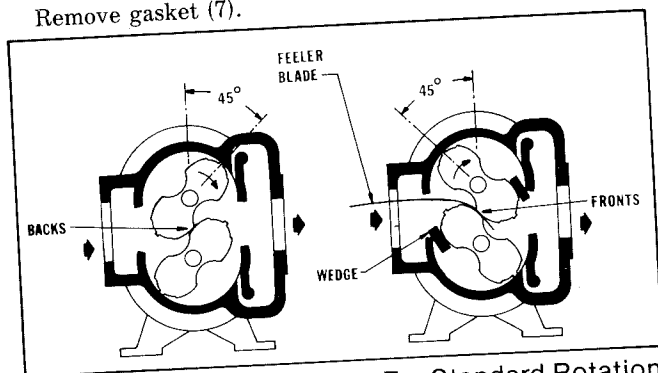
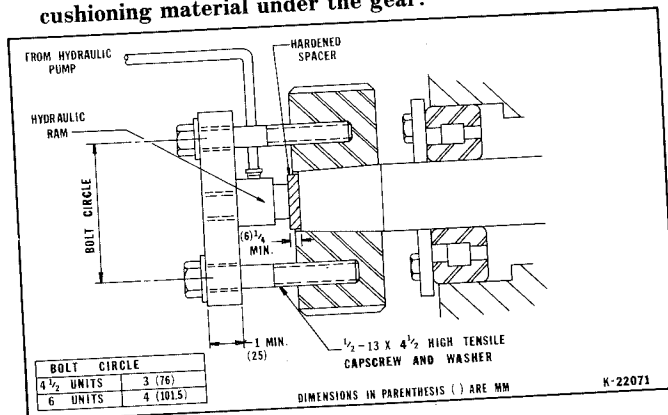

Figure 4 — Impeller Timing For Standard Rotation Viewed From Gear End
Figure 5 — Gear Removal
3. Removing gears: Be sure that each gear is marked for return to the same shaft in the same angular position and that the gears have match marks for the teeth. For this operation, the impellers should be wedged as shown in Figure 4. Remove the capscrews (31), slinger (46) and gear mounting washers (30). The timing gears (4) have two $\frac{1}{2}$ "-13 holes for pulling purposes. Use a hydraulic ram and puller of the type shown in Figure 5. The two $\frac{1}{2}$ "-13 screws should be turned into the gear full depth, but make sure the bar is square with the shaft. Provide
11. Installing drive gear (4) - Be sure shafts and gear bores are clean and free of scratches. Oil capscrew threads lightly. Place hardwood wedges as shown in Figure 4. Install gear (4), washer (30) and capscrew (31) so match mark at tooth is at the line of engagement. Tighten the drive gear to the torque given in Table 4. Blower assembly *must* be fastened down for torquing operation.
Installing driven gear (4) - Insert a long, metal feeler gauge between the impellers' lobes at the fronts as shown in Figure 4. Feeler gauge thickness to be a middle value from Table 5 for fronts.